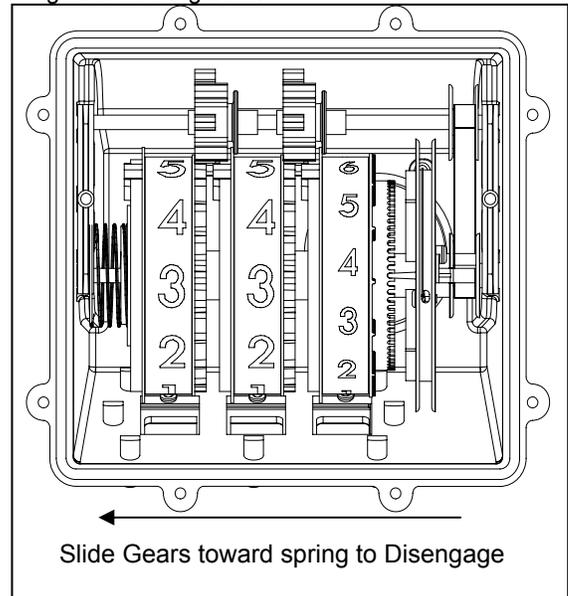

Figure 3
10. From inside of the tank gauge housing, disengage the gears by sliding them toward the spring at one end of the housing to allow for calibration of gears. While the gears are disengaged, start by rotating the inch gear to match the inch value found in Step 1. Slide this gear away from the spring to re-engage. Repeat for two remaining gears. Be sure to view the gauge from the vantage point it will be viewed from in day-to-day operations to properly calibrate the gears. See Figure 3.